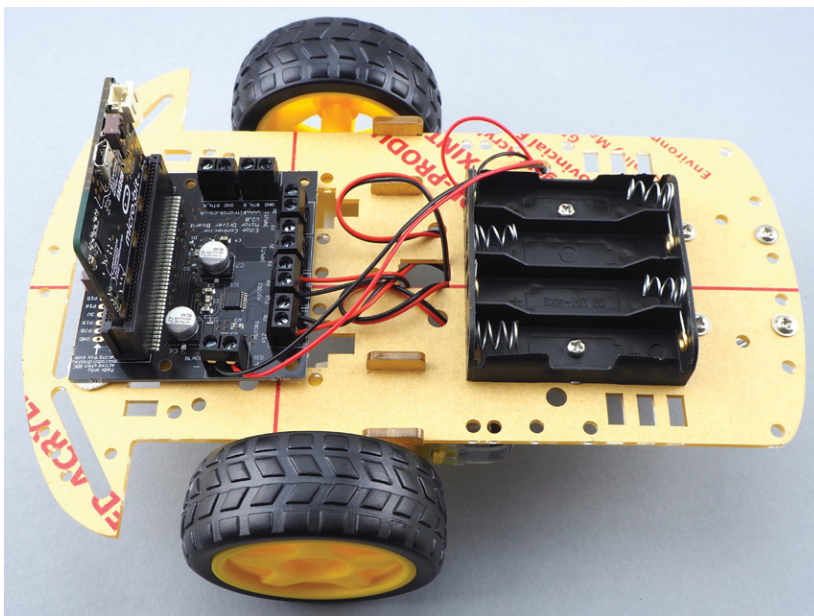

Figure 6-26: Wiring up
- 5. It's time to wire up the motors and battery box. First, look at Figure 6-26 to see what you are aiming for. Unscrew the screw on the relevant terminal, place the wire firmly inside the terminal, and then screw the screw back in fairly tightly.